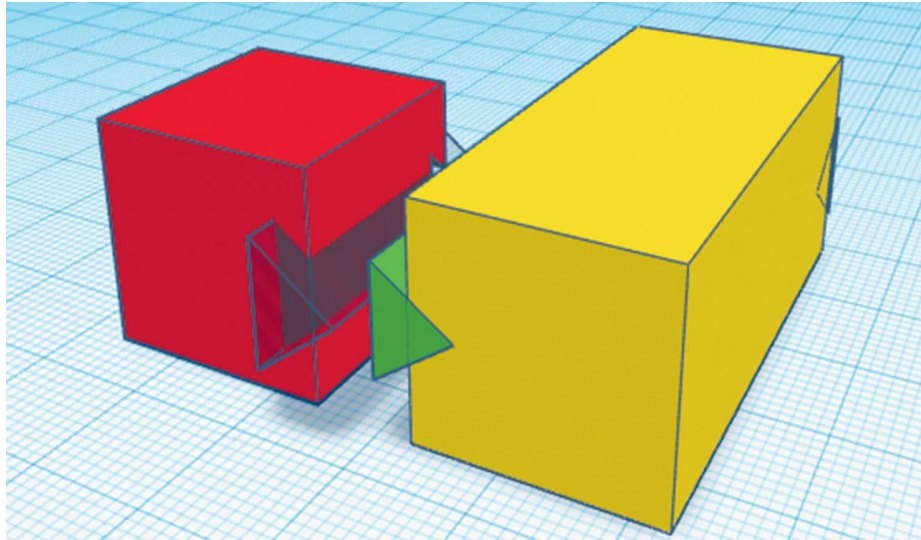
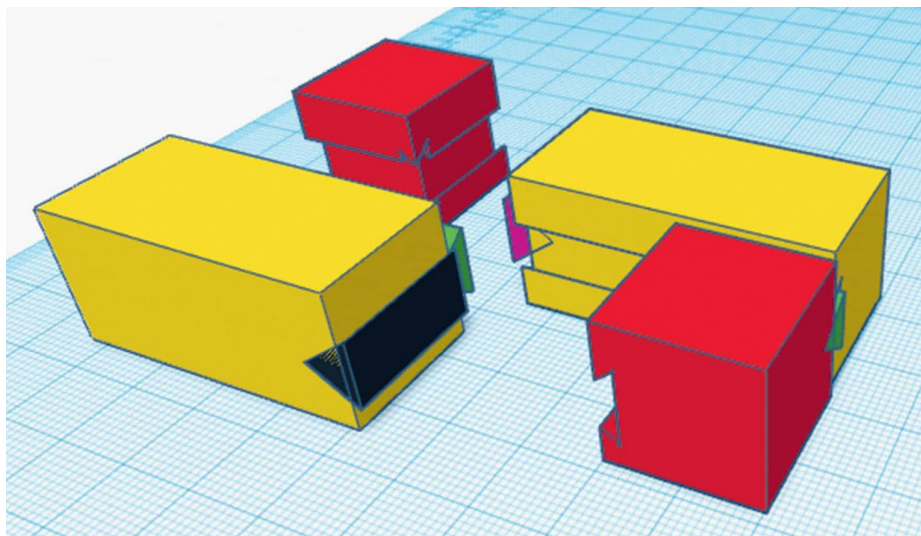

FIG. 4: The dovetail joint on one larger and one smaller piece of the puzzle.
FIG. 5: All puzzle pieces with the completed dovetail joints.
4. Now create the dovetail joints for all pieces. Follow the steps in Lab 13 (shown here) to ensure good fits. Fig. 4 shows the dovetail joint for one big and one small piece of the puzzle. Fig. 5 shows all pieces with dovetail joints.